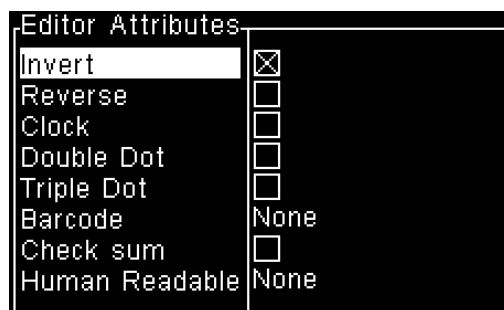

Figure 5-11: Invert Option
- 3 Press F3 or select *Modify Attributes* from the Editor menu to open the Editor Attributes window (Figure 5-11).